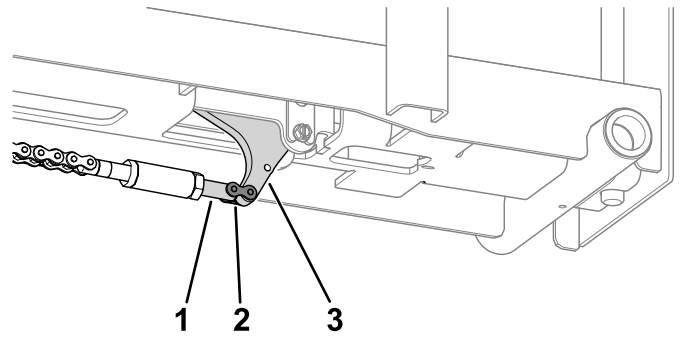

Figure 14
8. Use a chain link to install the chain-link turnbuckle to the wheel stop (Figure 14).